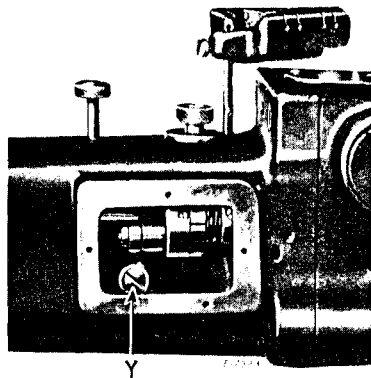

Fig. 19
If the distance between the vibrating presser bar and the lifting presser bar is more or less than $19/32$ inch, see that the feeding mechanism is set so that there is no feeding movement of the needle bar, then remove the cover at the front of the machine, loosen the clamp screw (Y, Fig. 19) which holds the needle bar rock frame rock shaft and move the needle bar frame forward or backward to the required distance. A piece of metal of the correct width may be used to determine the correct distance. When the adjustment has been made, securely tighten the clamp screw (Y), replace the cover plate and restore the feeding mechanism to its original position.
Remove the face plate and needle bar rock frame, then loosen the clamp screw at (Y, Fig. 19) and draw out the rock shaft and remove the sleeve.